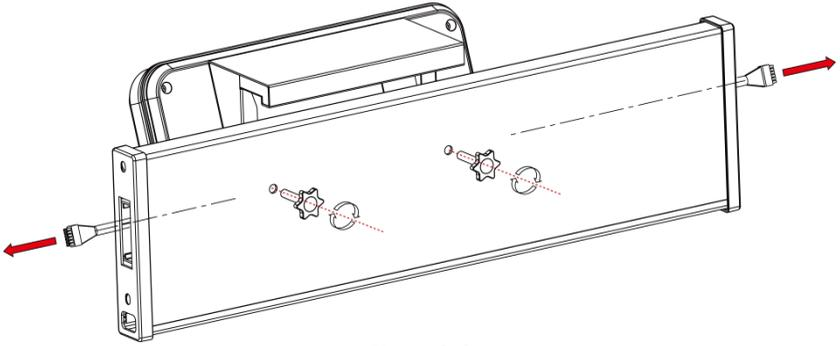

Figure 3-6
Step 6: After covering the beam cover, connect the host to the front beam with bolts, and tighten the screws with two Torx Thumb Screws, as shown in the figure 3-6 below.